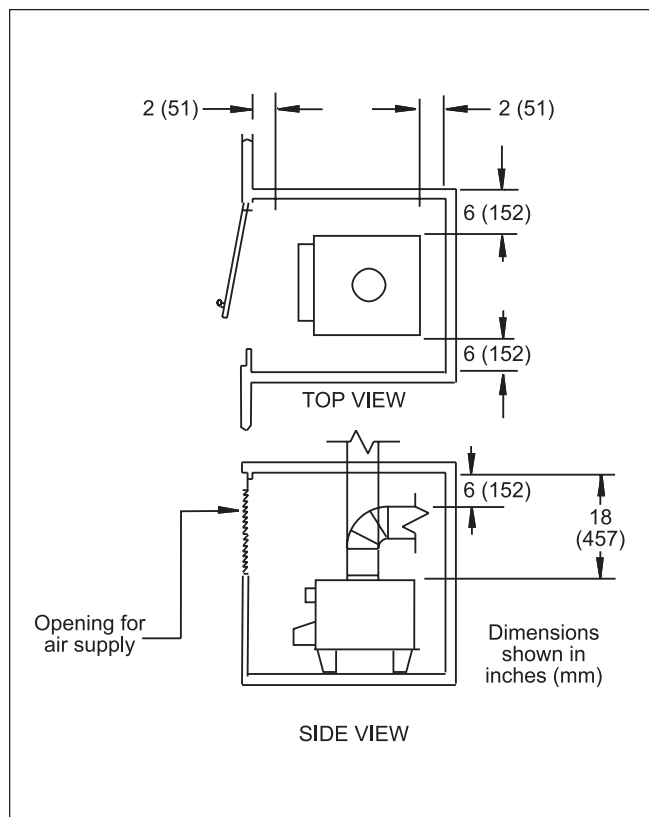

Figure 3. Installation in Closet.
3. For minimum clearances around the water heater, refer to Table 2. Maintain the minimum distances from all combustible surfaces (see Figure 3). The unit can be installed in a closet. Pay special attention to the air supply opening to the closet.